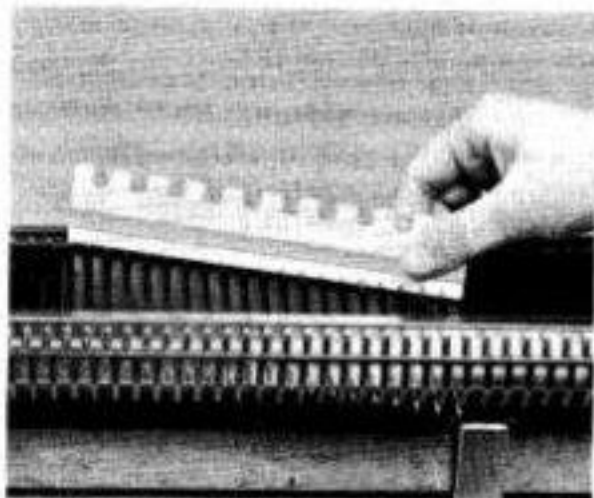

Fig.29
- (b) Bring forward into working position (B) using the straight edge of the selector plate, the number of needles required. (Fig.29)